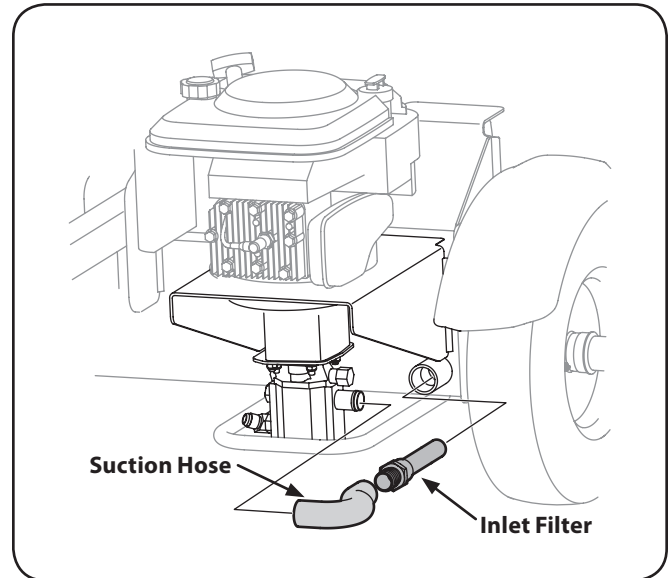

Figure 6-1
2. Carefully unthread the inlet filter and clean it with penetrating oil. See Fig. 6-1.